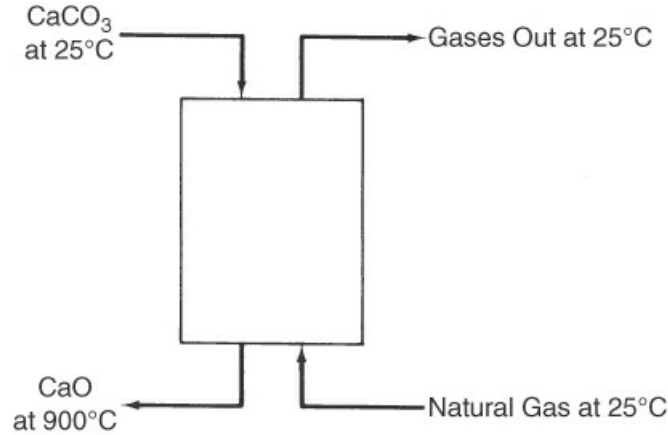

Figure P14.5
14.5 Limestone (CaCO_3) is converted into CaO in a continuous vertical kiln (see Figure P14.5). Heat is supplied by combustion of natural gas (CH_4) in direct contact with the limestone using 50% excess air. Determine the kilograms of CaCO_3 that can be processed per kilogram of natural gas. Assume that the following average heat